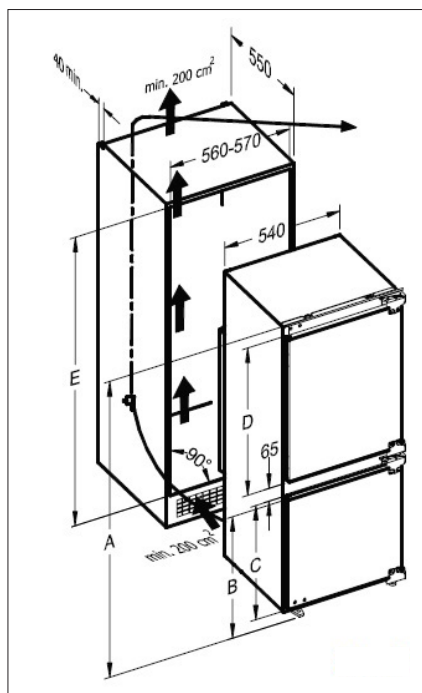
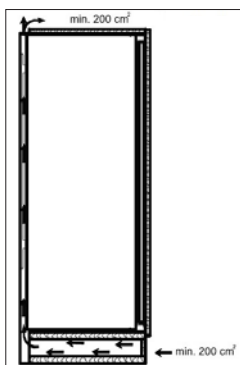

Fig. 3
Fig. 4
- The appliance is installed in standardized kitchen furniture designed for built-in appliances or in properly adapted furniture of dimensions according to Fig. 3. The dimensions in the table are given in mm.
- Ensure that sufficient ventilation is provided as shown in Fig. 4.
2. The required dimensions of the cabinet for the installation are shown in Fig. 3. To provide an effective air circulation around the appliance, ensure there is a sufficient space as shown in Fig. 4.